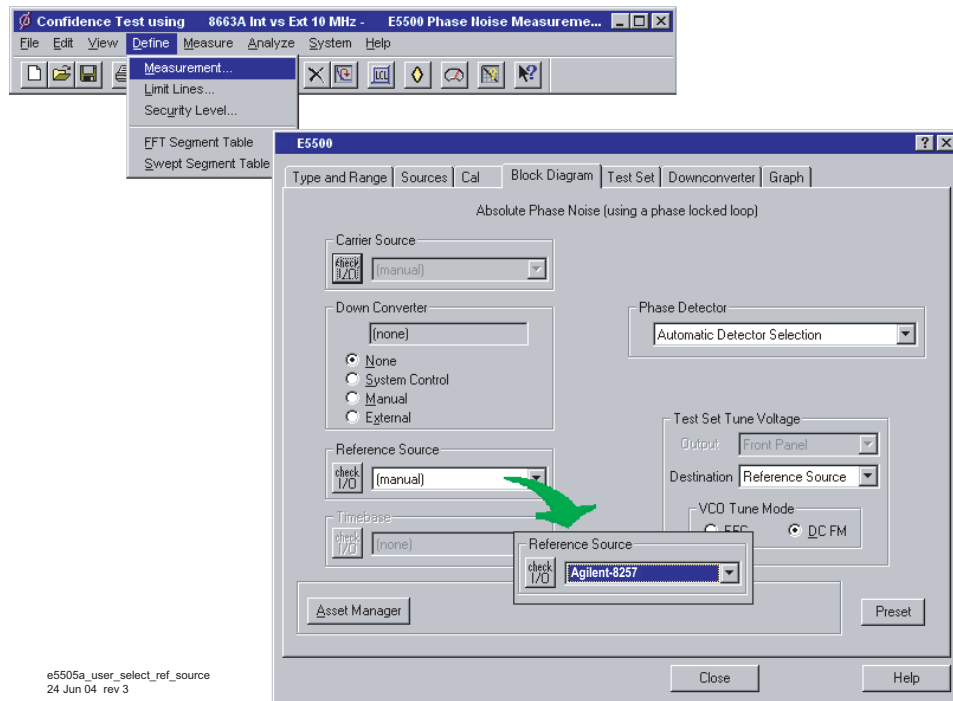

Figure 111 Selecting a reference source
- 1 Using Figure 111 as a guide, navigate to the **Block Diagram** tab.